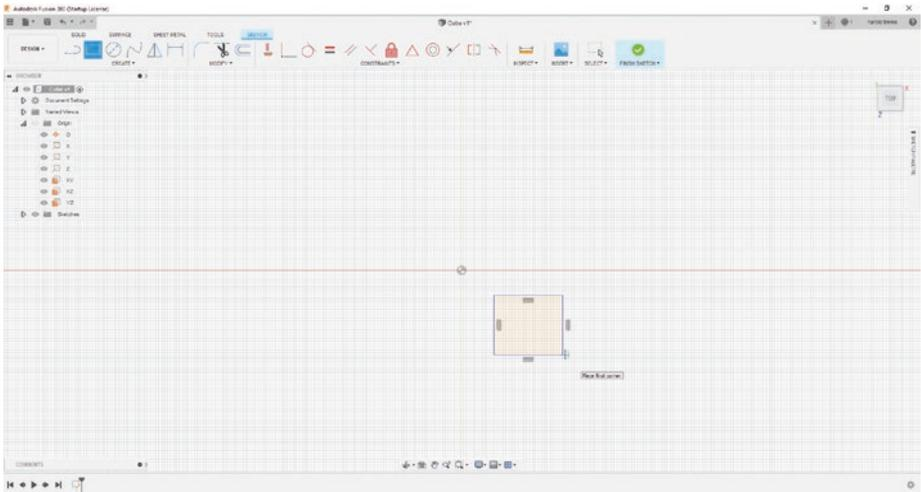

Figure 3-42. Add a rectangle to the grid
- Put a rectangle anywhere on the grid; don't worry about the dimensions yet. Press "Enter" when you are finished. See Figure 3-42.